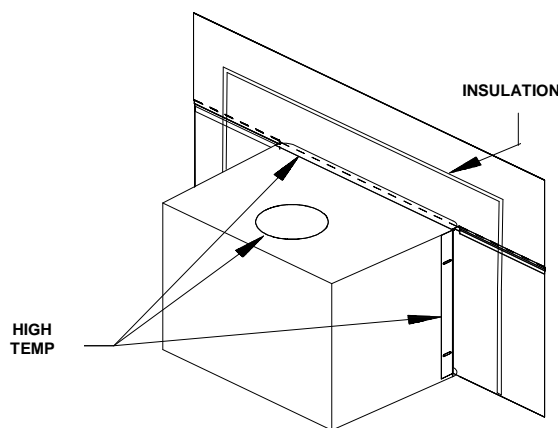

FIGURE 4A
10. Using insulation provided, peel and stick to back of panels overlapping fireplace dimensions by 1" on each side and top. (See Figure 4A).
11. Next using high heat silicone or furnace cement run heavy bead of caulking around where panels meet stove. (See Figure 4A).